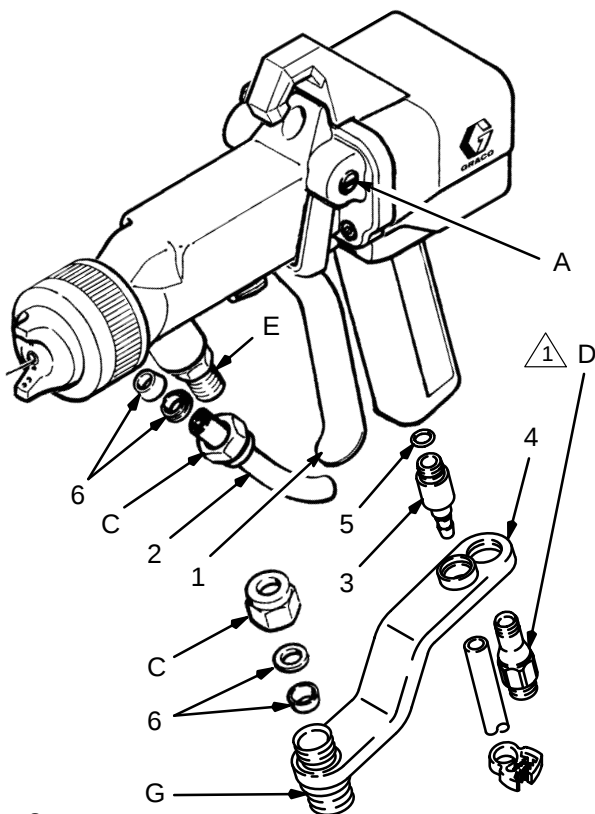

Fig. 2
1. Install the four-finger trigger (1) with the screws (A). See Fig. 2.
2. Install the nuts (C) and ferrules (6) on each end of the new tube (2).
3. Install the o-ring (8) onto the barb fitting (7) and install them into the gun handle.
4. Assemble the tube to the new bracket (4). Make sure the tube bottoms out in the fluid adapter (G). Refer to Fig. 2 and 3.
5. Assemble the other end of the tube into the fitting (E). See Fig. 2. Make sure the tube bottoms out in the fitting.
6. Install the air adapter (D) through the bracket (4). Apply high strength Loctite® to the threads and install the adapter into the gun handle (adapter has left-hand threads). Torque the adapter to 35-45 in-lbs (4-5 N•m).